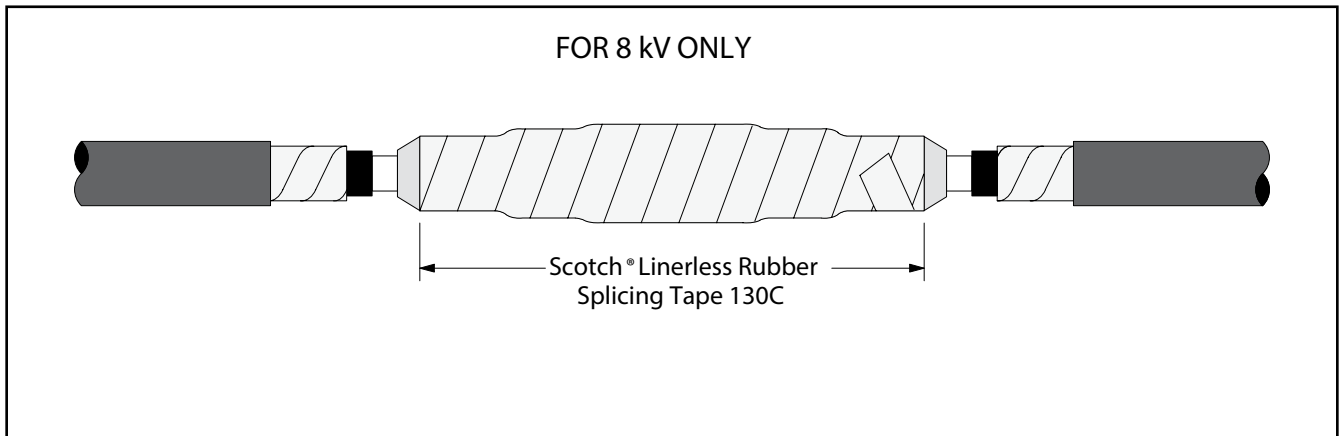

Figure 12
7.3 **FOR 8 kV RATING ONLY:** Apply 2 half-lapped layers of stretched Scotch® Linerless Rubber Splicing Tape 130C over the Cold Shrink insulator between the end tapers (Figure 12).